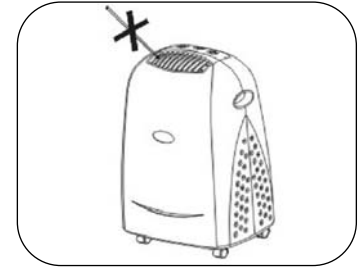

FIG.2
- Do not place objects on the unit or restrict air inlet / outlet (fig. 2).